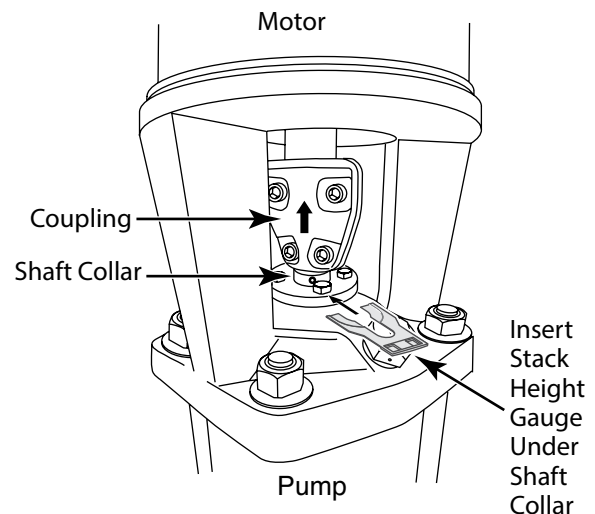

Figure 7 - Using the stack height adjusting tool
12. **BVM(I/X)1–BVM(I/X)20:** Reinstall the shaft pin (72) if your pump has one. Raise the height of the pump shaft by using the shaft pin (72) as a lift point (you may have to put a block under the pin and lift with a flat screwdriver). Insert the stack height adjustment tool (see Figure 7) in below the shaft collar and let the shaft collar rest on it. **BVM(I/X)33–BVM(X)150:** Pick up the shaft (if necessary, temporarily reinstall the coupling to provide a grip to lift by) and insert the stack height adjustment tool (see Figure 7) below the shaft collar. Let the shaft collar rest on it.